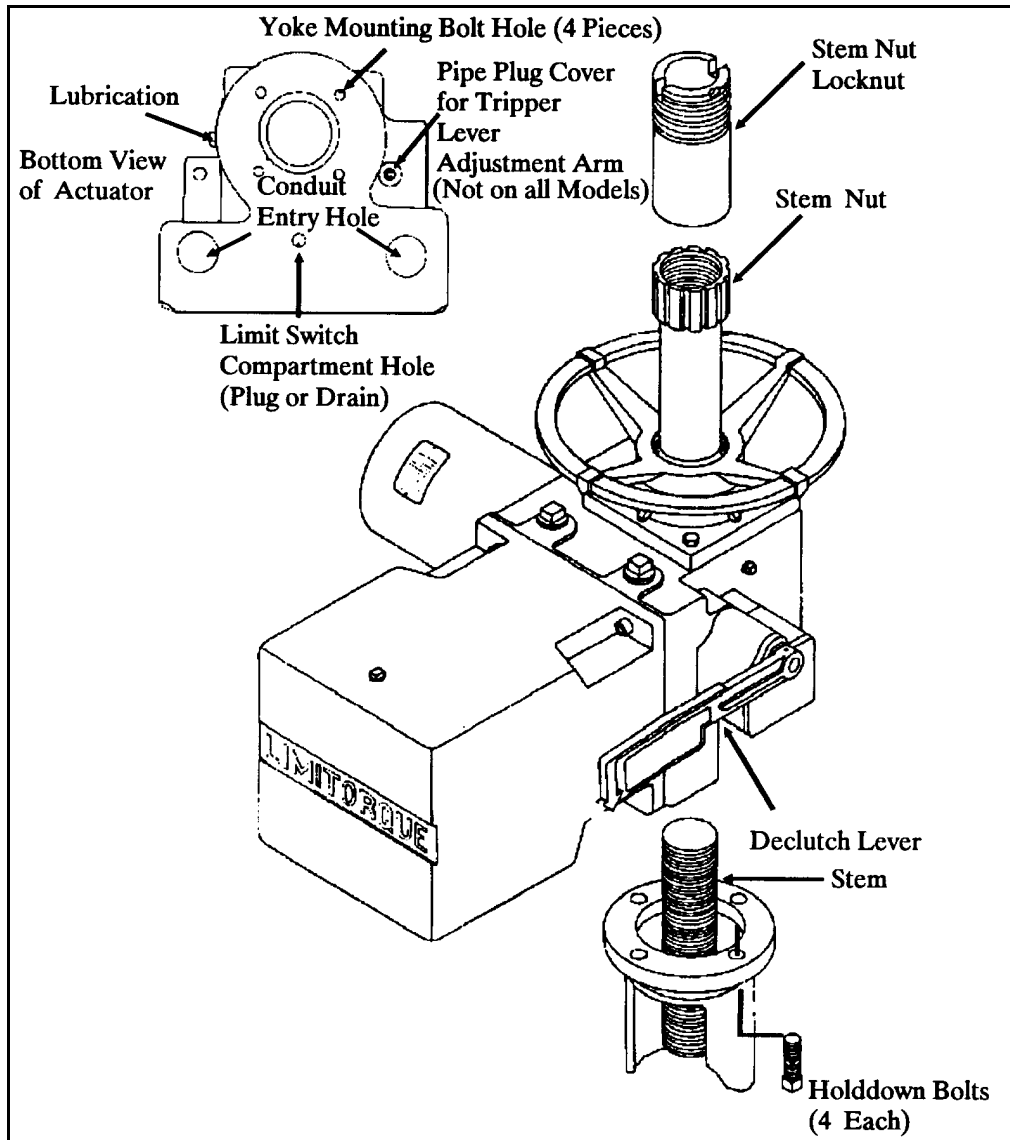

Figure 4-8 Actuator Removal (Stem Nut Removal)
23. Remove all metal particles using a small magnet. Remove the stem nut locknut (Figure 4-8). A special T-wrench is normally required for this, although a drift pin can sometimes be used.
while observing the upward movement of the stem nut (Figure 4-8). Continue to turn handwheel until the stem nut stops rising, indicating it has disengaged from the drive sleeve splines.